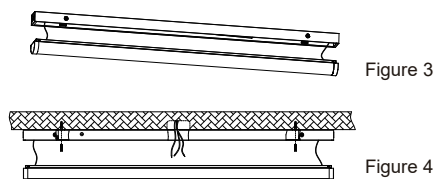

Figure 3
- Step3. Press the screws on both sides of the lamp by hand to open the lamp (Figure 3)